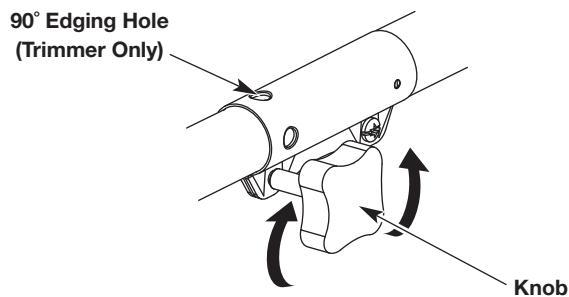
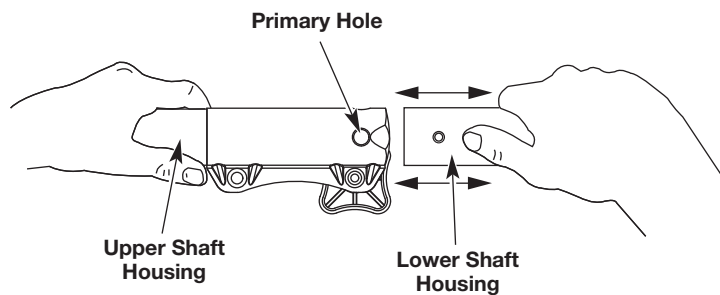

Fig. 4
Fig. 6
1. Turn the knob counterclockwise to loosen (Fig. 4).
2. While firmly holding the attachment, push it straight into the coupler until the release button snaps firmly into the primary hole (Fig. 6).
3. Turn the knob clockwise to tighten (Fig. 4).
CAUTION: Before operating this unit, be sure that the release button is fully snapped into the primary hole (Fig. 6), and that the knob (Fig. 4) is securely tightened.
For decorative edging with the line head trimmer attachment, lock the release button of the attachment into the 90° hole (Fig. 4).
3. While firmly holding the upper shaft housing, pull the attachment straight out of the coupler (Fig. 6).